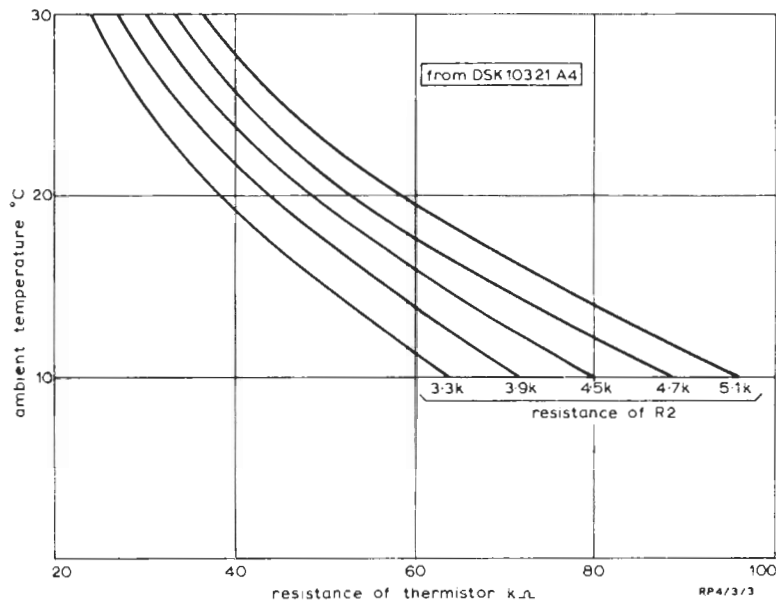

Fig. 3. Effect of Ambient Temperature Variations on Thermistor Resistance
3. Use Fig. 3 to determine the required value of resistor R2, which should be Type MR25. The action of the cut-out circuit can be checked by momentarily connecting a 5.1-kilohm resistor in parallel with the thermistor to operate the cut-out.